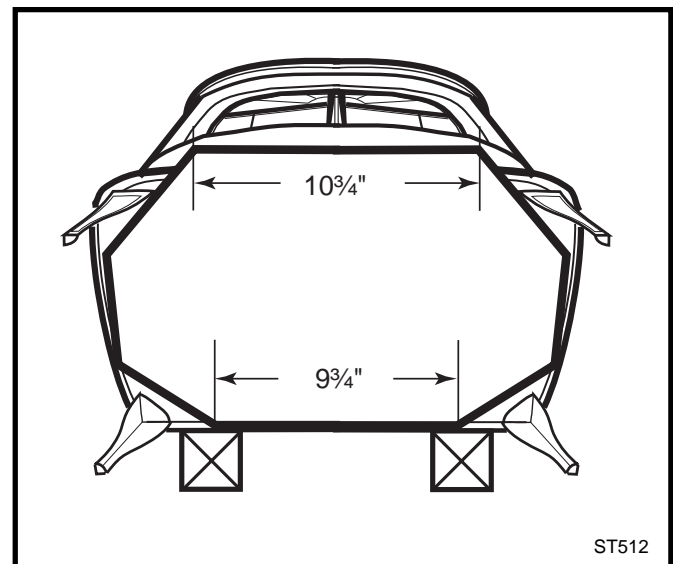

Fig. 28 Bottom Heat Shield orientation.
2. Orient the Bottom Heat Shield so that the longer edge is at the front. See Fig. 28. Attach the Bottom Heat Shield to the C-Clips using the wingbolts
2. Place several sheets of crumpled newspaper in the stove. Avoid using glossy or colored paper, as these burn poorly. At the front of the firebox, place on the paper six or eight pieces of dry kindling split to a finger-width size, and on the kindling lay two or three larger sticks of split dry wood approximately 1-2" (25-50 mm) in diameter. (Fig. 28)